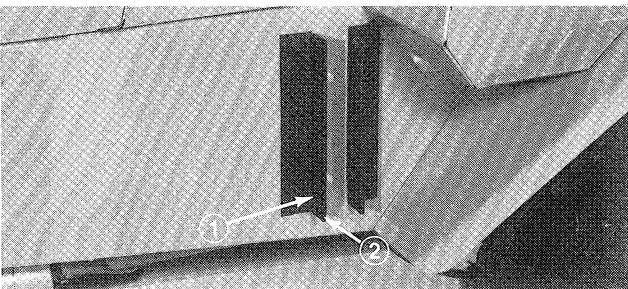

Figure 2
2. Mark and drill (8)  $\frac{13}{32}$ " dia. holes at locations shown on template.
3. Positioning brackets as shown in Fig. 2, and using appropriate bracket holes, mount brackets to frame with (1)  $\frac{3}{8}$ -16x2" lg. capscrew, (7)  $\frac{3}{8}$ -16x1 $\frac{1}{4}$ " lg. capscrews, (8)  $\frac{5}{16}$  washers, and (8) locknuts. Use 2" lg. capscrew to secure bottom of rear bracket.